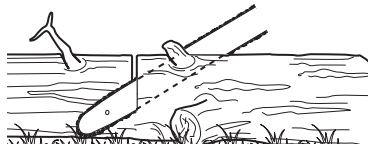

Fig. 32
1. Follow the simple directions for easy cutting. When the log is supported along its entire length (Fig. 32), it is cut from the top (overbuck).